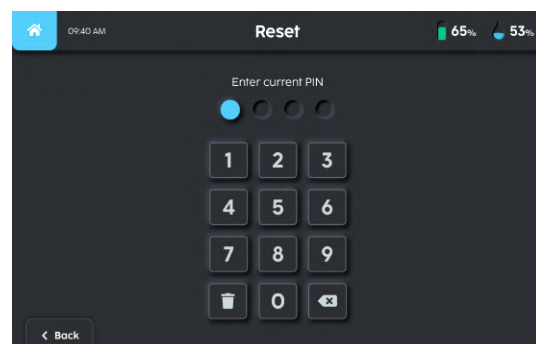
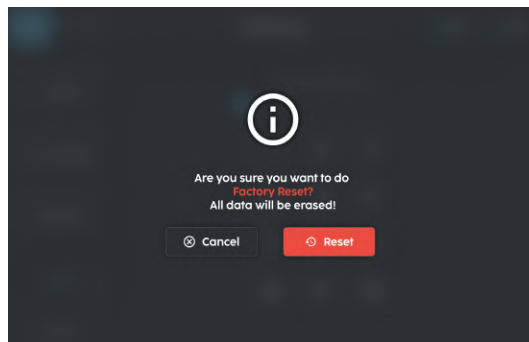

FIGURE 7-13
FIGURE 7-14
3. Once selected, enter the account PIN and reset (**Fig. 7-13**) (**Fig. 7-14**).